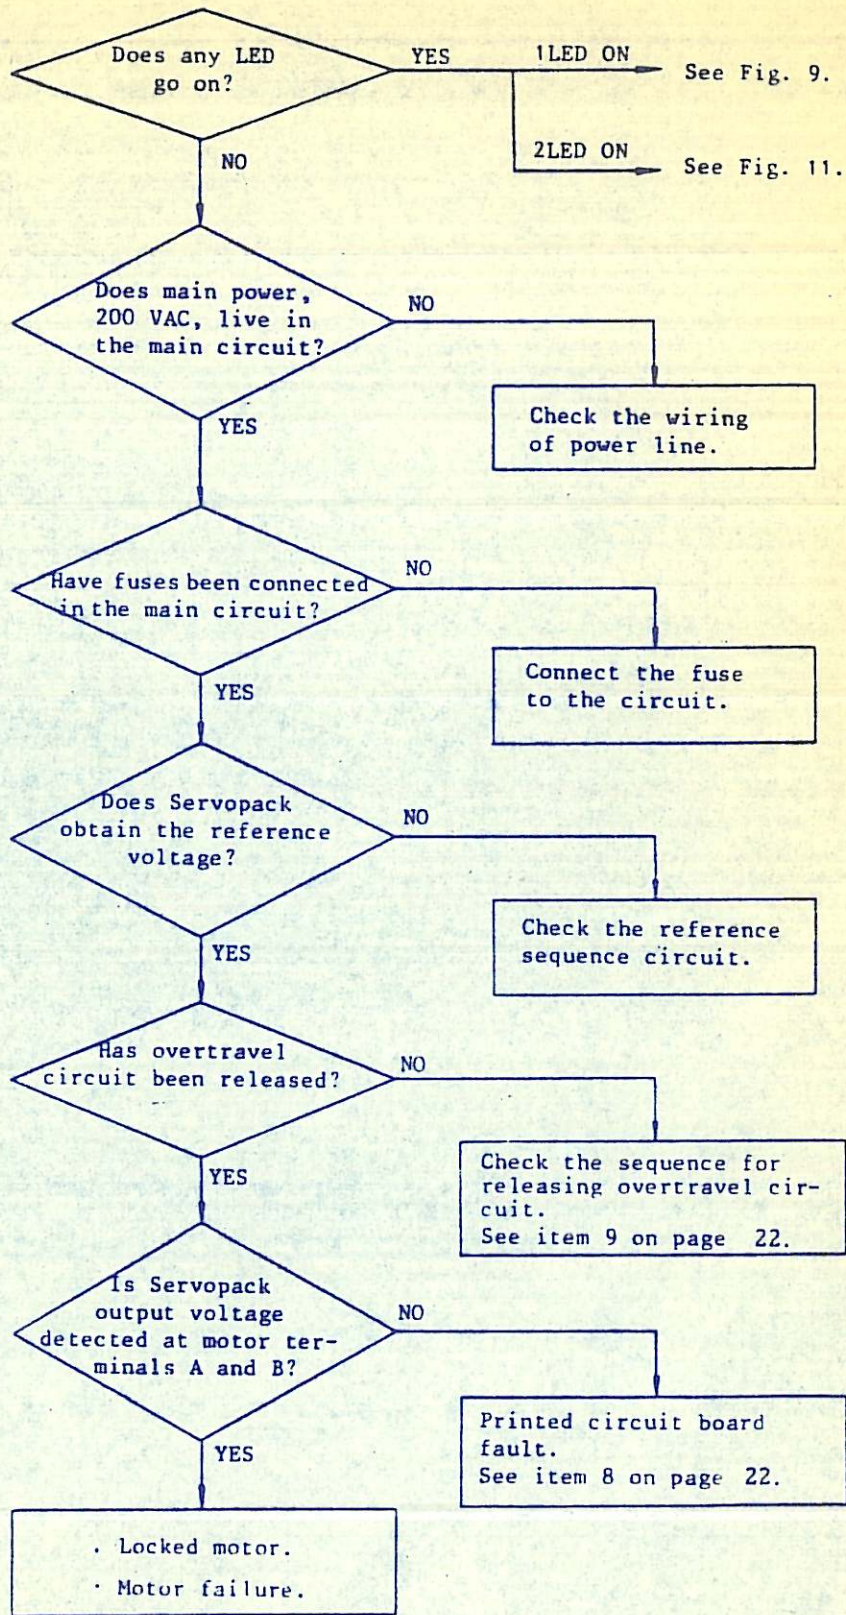

Fig. 17
- 7. The motor does not run even if the reference input is given to the motor. See Fig. 17. Table 9 shows LED functions.